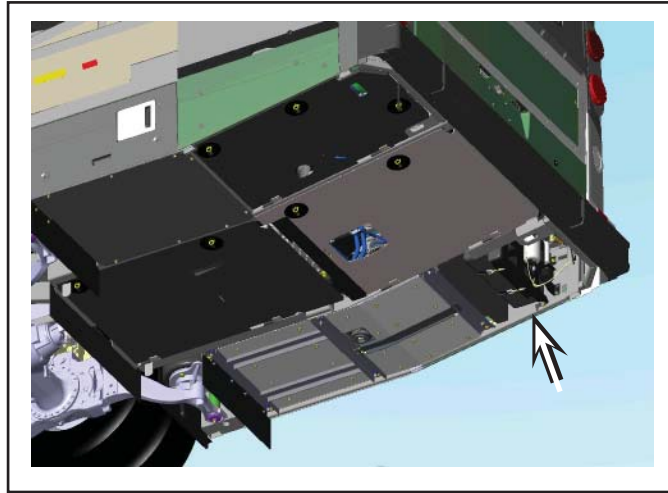

Figure 3 - View of the Rear Dust Pan Removed
- 1.6. Remove the curb side rear dust pan located underneath the vehicle. See Figure 3.